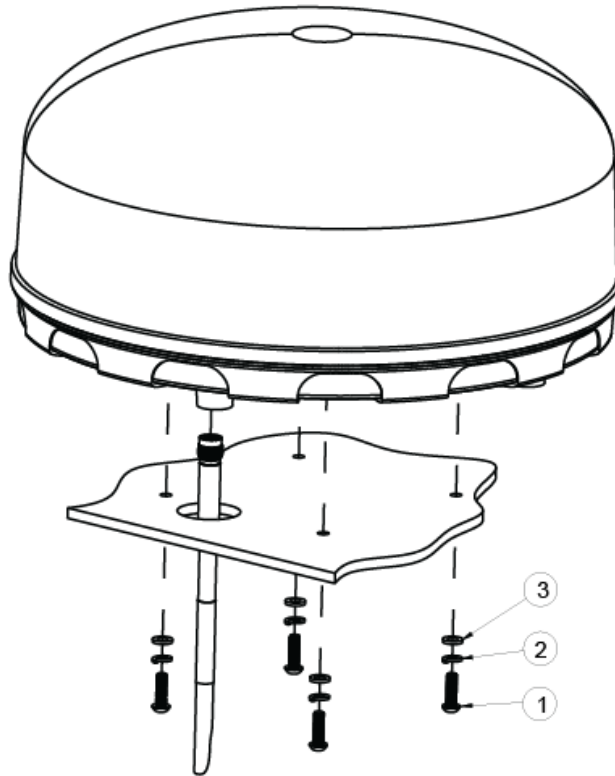

Figure 2-5 Above Deck Unit / Antenna Installation (M10 Hardware)
4. Assemble screws (1) with flat washers (3) and split lock washers (2) as shown in Figure 2-5 and torque to requirements.
5. Connect coaxial cable as shown in Figure 2-5 and hand tighten.
6. After connecting the cable to the antenna (Figure 2-5), wrap the connector with the self-vulcanizing tape to ensure a water-tight seal.